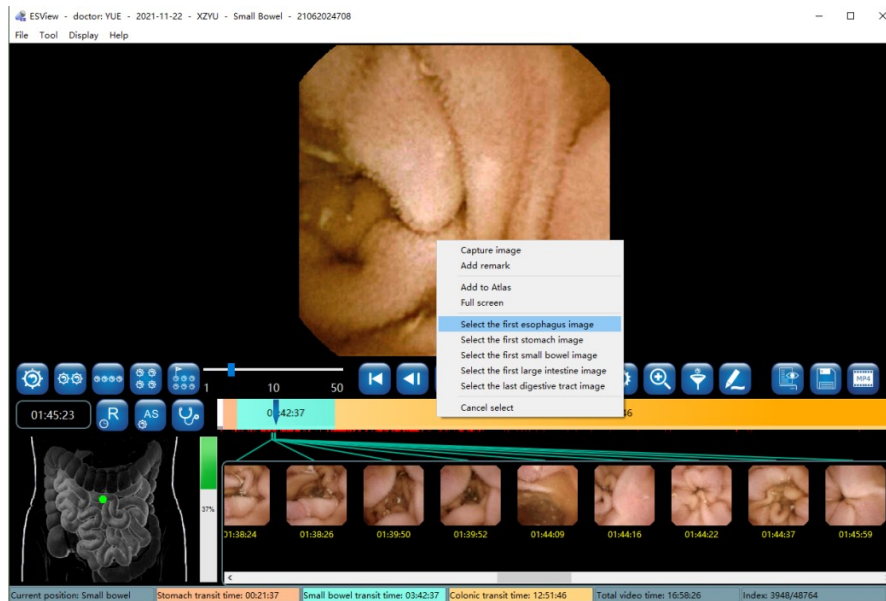

Figure 4-20: Image Tagging
1. Move the mouse over the image to be tagged and right click on the image. In the pop-up menu (Figure 4-20), select “Select the first esophagus image”, “Select the first stomach image”, “Select the first small intestine image”, “Select the first large intestine image”, or “Select the last digestive tract image” to tag the image as a landmark of the digestive tract. When an image is tagged, the colors in the progress bar will change automatically according to the position of the tagged image, separating the images by different sites of the digestive tract. The information in the status bar also changes automatically. The tagged images will appear in the bottom thumbnail area